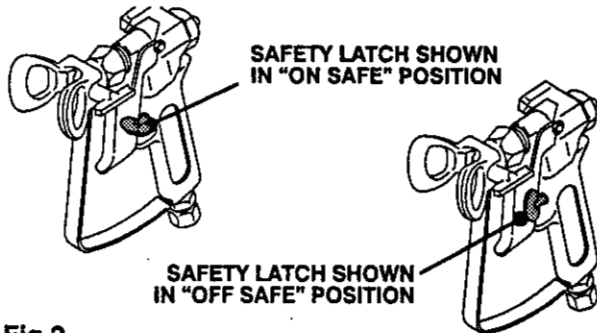

Fig 2
When engaged, the gun safety latch prevents the gun from accidental triggering. See Fig 2.
5. Disengage the gun safety latch. See Fig 2, page 9.